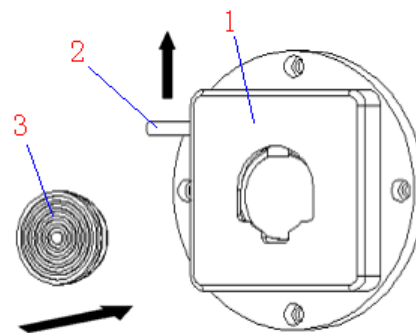

Fig 20
As showed in the fig 20 , rotate the clamp lever (2) , and insert the specimen(3) into clamp (1), then loosen the clamp lever (2) .